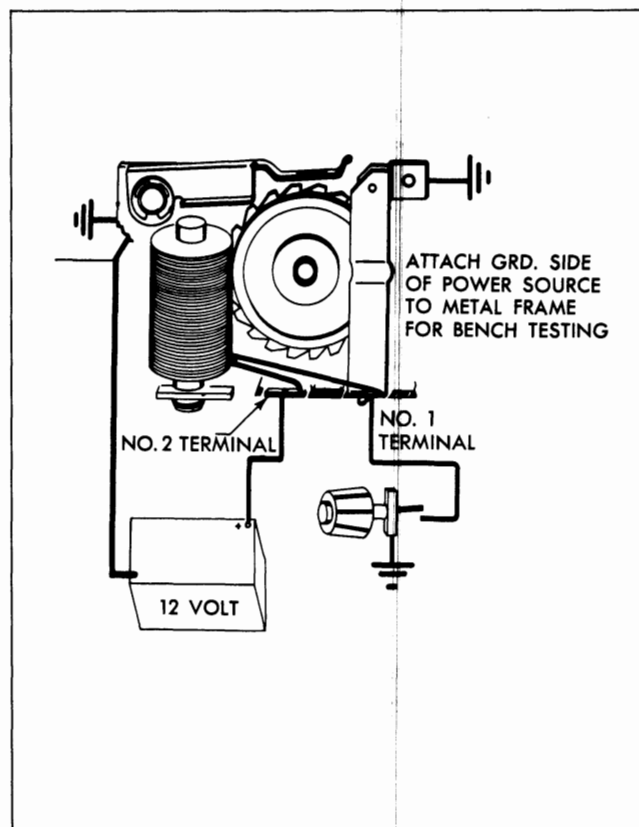

Fig. 11-89 Pump Wiring Circuit
Depressing the dash switch washer button closes the washer pump relay circuit to ground. (Refer to Fig. 11-89). (NOTE: If wiper was "off" the wiper switch is mechanically turned to the "On" position by the washer button.)
1. Remove washer pump cover and connect 12 volt power supply to washer pump as shown in Fig. 11-89. Connect jumper wire from terminal No. 1 to ground. Turn ratchet pawl to the position shown in Fig. 11-89. Ratchet pawl should be pulled toward relay pole and engage ratchet teeth. Failure to do as described above indicates an open relay coil.